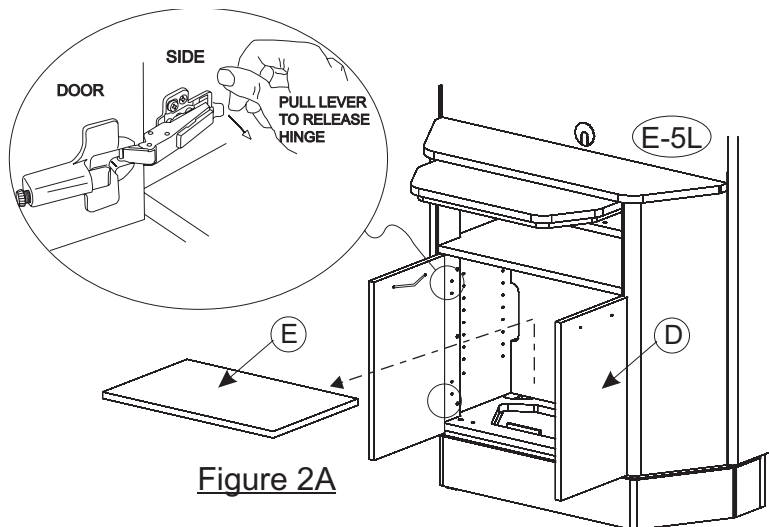

Figure 2A
For E-5L models: Remove the two doors (D) (see Figure 2A). Remount door handles from back side to front side. Remove the bottom cover (E) (see Figure 2A).